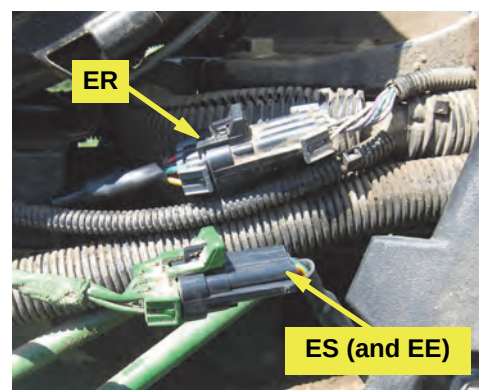

Figure 2d: 80 series - installed phantom plug and connected WAS adapter and WAS cable
- e. Install the male phantom plug **ER** in the machine's female WAS wire connector (Figure 2d - upper connection).
Connect WAS adapter **ES** to routed WAS cable **EE** then connect **ES** to the machine's male WAS connector (Figure 2d - lower connection).